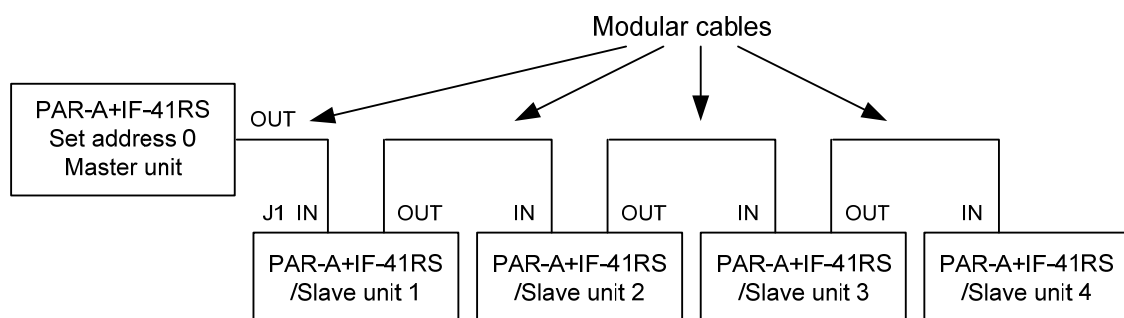

Fig.13 Computer Control Using IF-41RS
- If a PAR-A power supply unit with a built-in IF-41RS is set to address 0 and connected as the master unit as shown in Fig.13, operations of the master unit are reflected upon four slave units. The operations shown below are reflected upon four slave units:
- ① Setting of the DISPLAY/STATUS key (Selection of channels whose set value or output values are to be displayed).
- ② Selection of PRESET 1 to PRESET 4.
- ③ Turning on and off the MAIN OUTPUT key.
- ④ Setting of each OUTPUT SELECT key.
- ⑤ Turning on and off the delay function and delay time of each channel.
- ⑥ Set voltage and current of each channel.